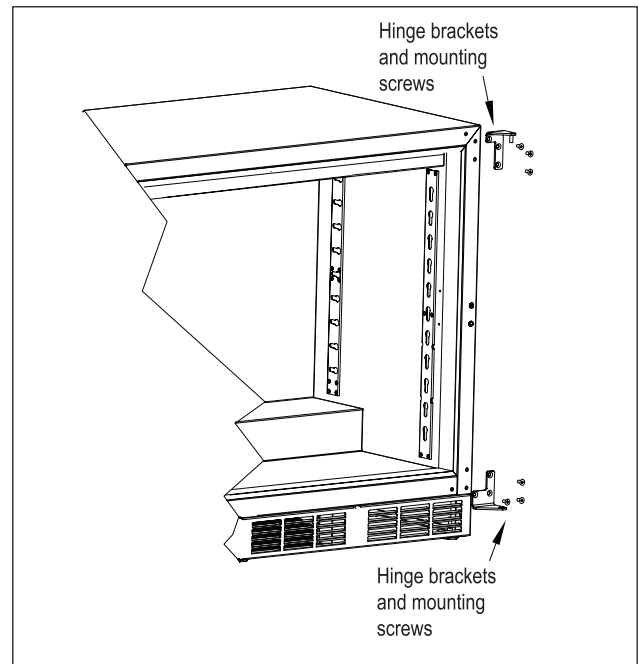

Figure 9. Hinge Installation
5) Using the screws removed in step 3, install the top and bottom hinge brackets from the kit (Fig. 9).